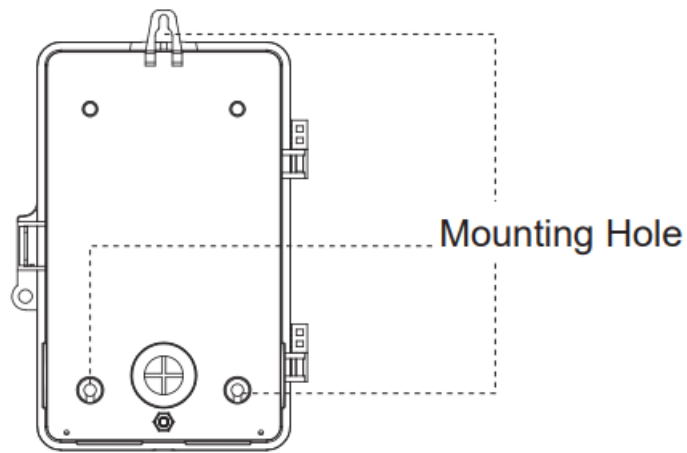

FIG.4 Mounting Holes
2. Mounting the Digital Box Timer Hold the box in place and use the three holes (FIG.4) to mark position on the mounting surface.